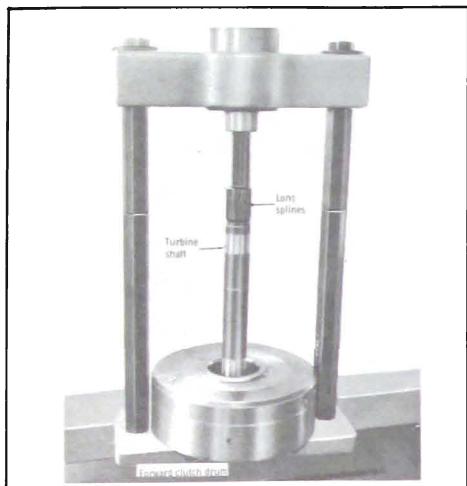

Figure 5-627
7. If removed install oil seal ring on turbine shaft and install in forward clutch drum. See Figure 5-627.